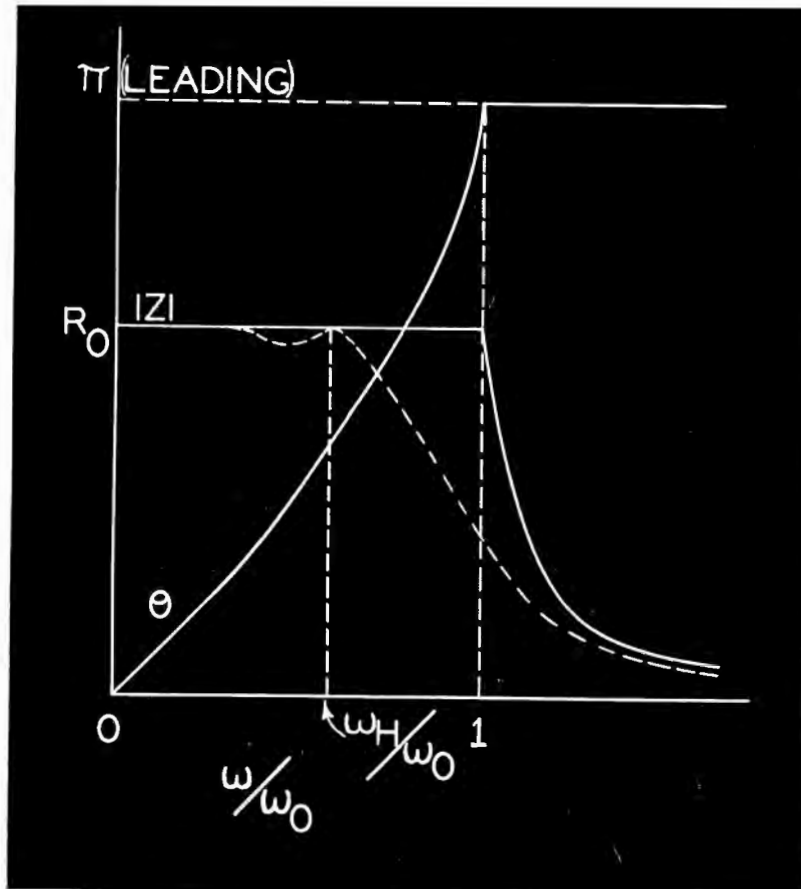
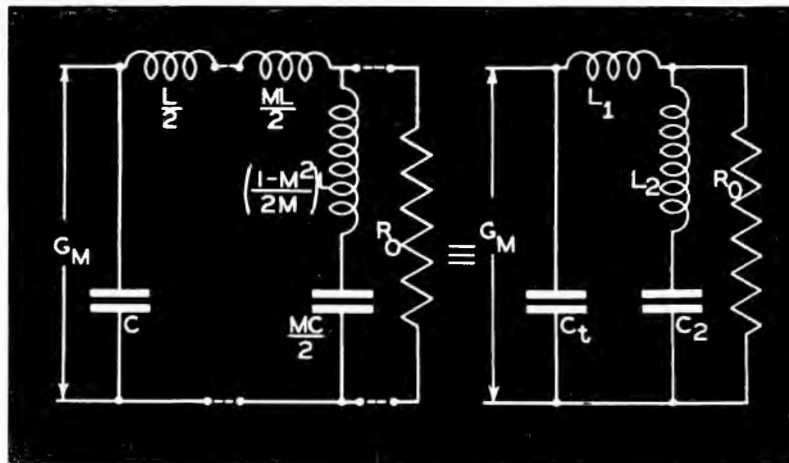

Figure 9
Figure 11
However, the impedance looking into an m-derived section terminated in R_0 is more nearly that of the true image impedance up to a point very close to the cut-off frequency than is that for its prototype, the constant k section, similarly terminated, particularly for $m = 0.6$. Hence, if we take a half section and terminate its T end with a series m-derived half section terminated itself in the normal image impedance R_0 , then the impedance looking into the π end of the constant k half section will be very closely that of a perfectly terminated section up to pretty nearly its cut-off frequency. If an equal amount of capacity be added to its π end (as per the method of Percival) then the impedance will be very close to that given in Figure 9. The circuit is shown both in synthesis and in final form in Figure 11, where the values for the various circuit parameters are also indicated. As stated in the Figure, the frequency f_H at which the response begins to fall off is about 95% of the cut-off frequency according to Wheeler⁸, and experimentally it has been found
quency although its phase angle increases with increase of the above ratio. The actual plot of Eq. (10) is given in Figure 9. It is at once evident that such a load impedance in the plate circuit of a video amplifier stage will have a perfectly flat gain up to the cut-off frequency ω_0 and then will drop off asymptotically to zero. This indicates a very desirable state of affairs, but it must not be overlooked that the phase shift is not strictly linear with frequency in the pass band and will thus offset to a certain extent its favorable amplitude characteristic.
amplitude response are shown by the broken line curve in Figure 9.
followed by another half section thus forming a complete π section before termination with R_0 . The band width is thereby increased. In (C) we see the circuit of B further built out with an additional half section before termination with R_0 , and the band width is correspondingly greater. In (D) we see a simpler configuration which is equivalent to that shown in Figure 11 in which a shunt m-derived section is employed. The optimum value of m in either case is about 0.6. A more accurate evaluation of the circuit parameters of this configuration will be given further on.